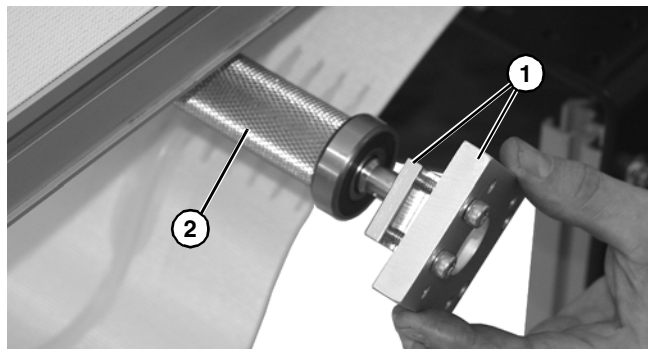

Figure 72
6. Separate mounting blocks (**Figure 72, item 1**) from spindle (**Figure 72, item 2**).